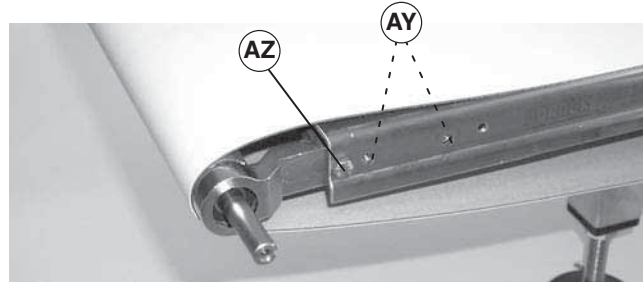
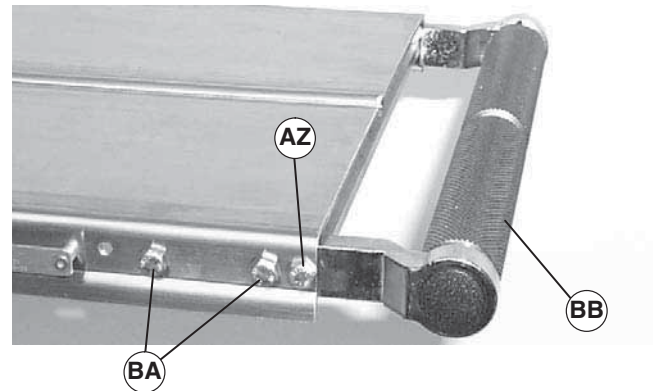
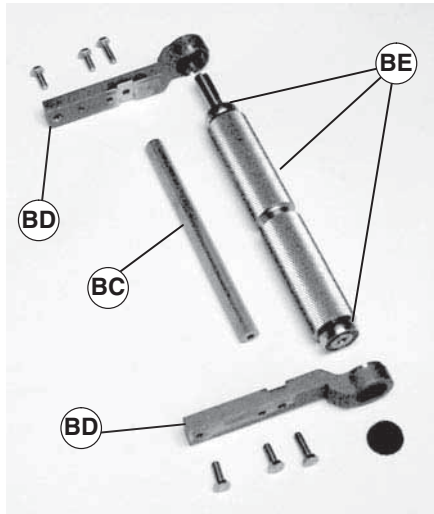

Figure 28
Figure 29
Figure 30
Two screws (Figure 28, item AY) were removed in step 1.
Cross support post (Figure 30, item BC) will not be secure and may drop when screws (Figure 28, item AZ) and (Figure 29, item AZ) are removed.
2. Remove screw (Figure 28, item AZ) and (Figure 29, item AZ) from each side of conveyor.
For a conveyor with a Heavy Load Bottom or Top Gearmotor Mounting Package, the two screws (Figure 29, item BA) were removed in step 1.
Drive spindle assembly (Figure 29, item BB) will not be secure and may drop when screws (Figure 28, item AZ and BA) and (Figure 29, item AZ and BA) are removed.
3. Remove two screws (Figure 29, item BA) from side of conveyor opposite drive shaft.
4. Remove drive spindle assembly (BB).
5. Remove cross support post (Figure 30, item BC).
6. Remove two head plates (BD).
7. Remove drive pulley and bearing assembly (BE).